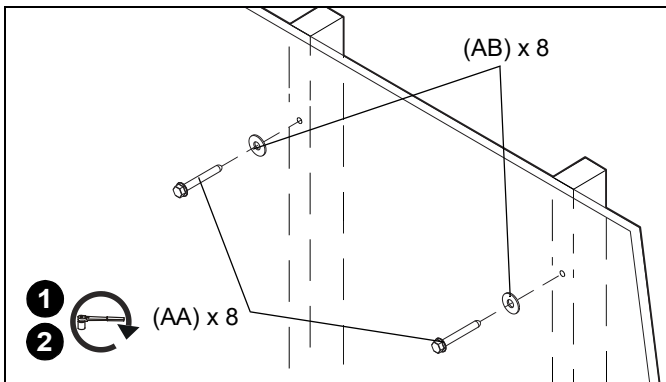

Figure 16
1. Use one 5/16" x 2-1/2" hex flange head lag bolt (AA) and one 5/16" washer (AB) through product and into pilot hole. (See Figure 16)